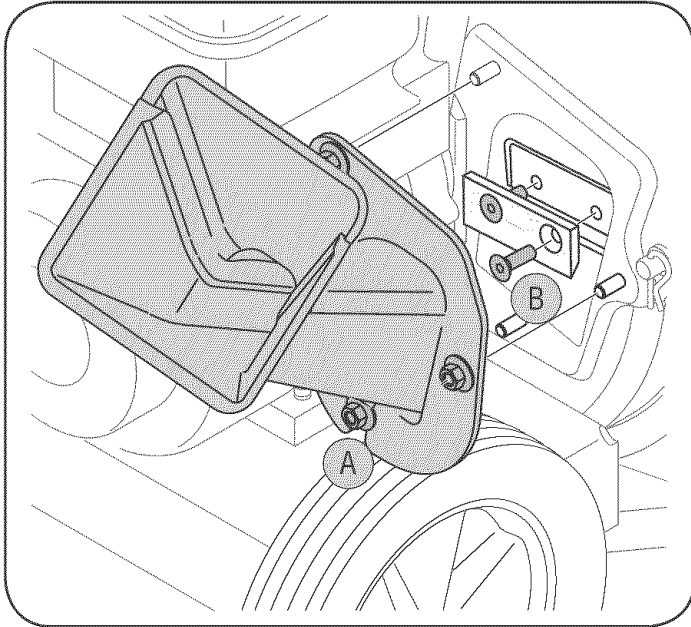

Figure 9
3. a. Remove the chipper chute by removing three hex nuts and washers which secure it to the impeller housing. See Figure 9.